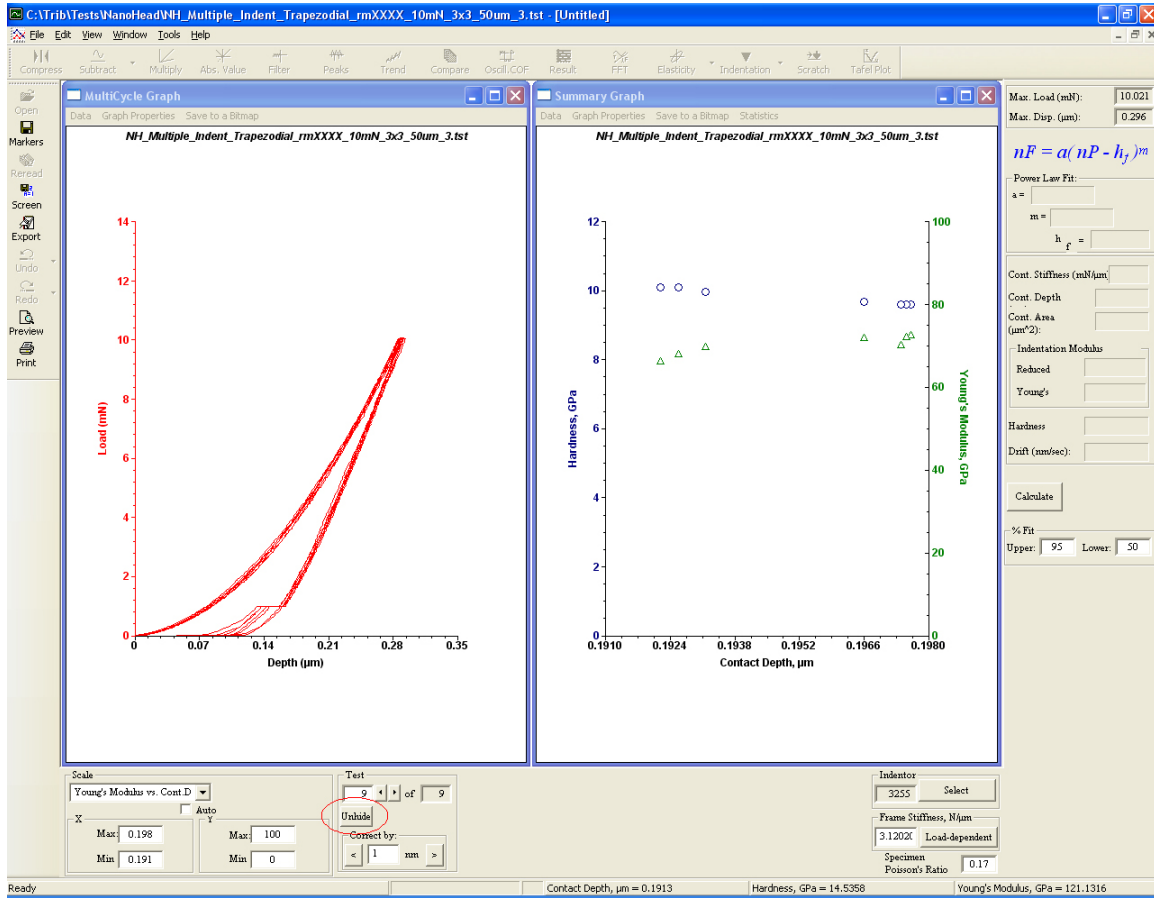
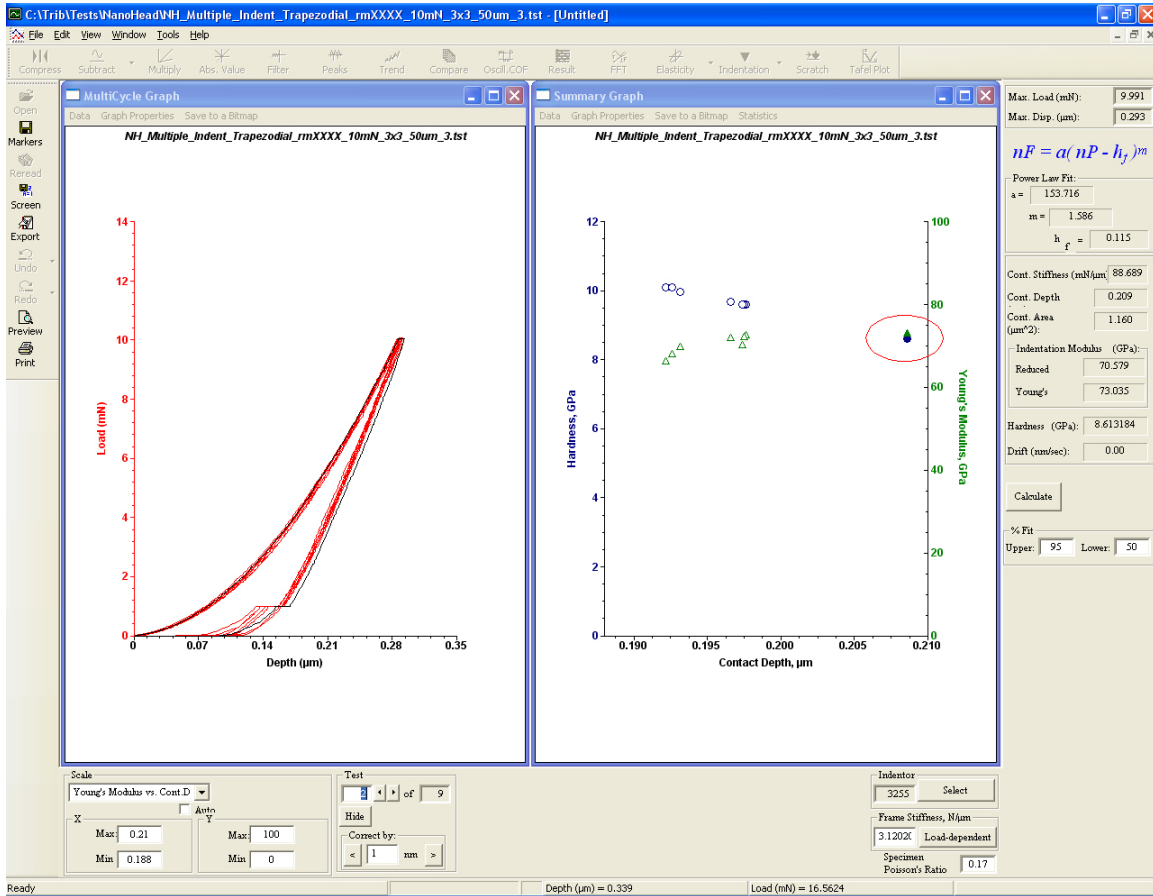

Figure 33: Hiding an indent cycle and re-scaled Hardness and Young's Modulus axes.
Figure 34: Indentation Data showing one indent with a significantly different contact depth, same data as Figure 33, only with an indent cycle unhidden.
- 12) If one indent cycle seems to have a problem it can be hidden from view and data processing by pushing the “Hide” button as shown in Figure 33. Figure 33 has also had the y axes re-scaled for hardness and Young’s Modulus for a different graph appearance.
- 13) Figure 34 shows the same data as Figure 33, only with the indent #2 not hidden, you can see that its contact depth was significantly greater than the other indents, which is the reason for it being hidden from data processing: